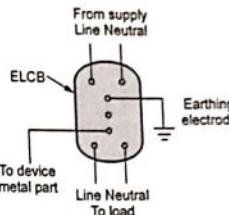

Fig. 6.10.1 ELCB
- The connection to earth reference electrode is passed through ELCB, by connecting two earth terminals of ELCB as shown in the Fig. 6.10.1.